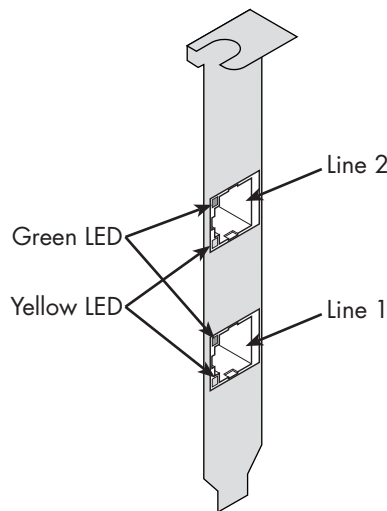

Figure 6. PT1 & PT2 Connector Locations
The position of the PRI connectors is shown in figure 6.
9. Connect the PRI line(s) to the adapter. If the adapter is a RAS PT1, only Line 1 (see figure 6 on page 35) is active. If the adapter is a RAS PT2, two PRI lines are supported and both connectors may be used.